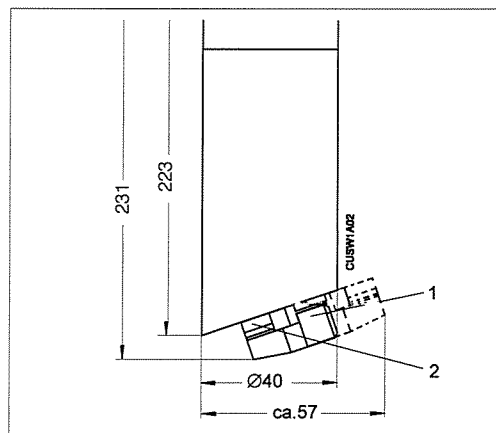

Fig. 3.5 Dimensioned drawing of CUS 1-W / CUS 4-W
- Prism optics, optionally with wiper module (fig. 3.5)